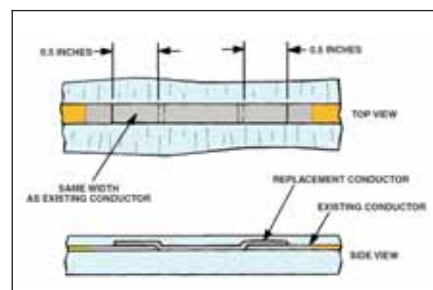

Figure 6 Replacement specifications.
- Obtain a replacement conductor equal to or slightly greater in width and thickness and a minimum of 1 inch (2.5 cm) longer than the removed damaged conductor. (See Figure 6 top.)
11. Clean replacement and form conductor in place. (See Figure 6 bottom.)